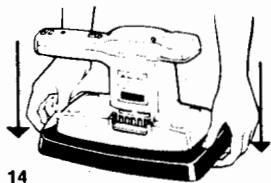
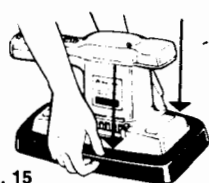

FIG. 14
FIG. 15
2. Attach skirt by grasping it as shown in Fig. 14 and pushing it down over the housing. Push down at sides, Fig. 15 ensuring that all skirt-tabs are hooked under the housing's lower edge.